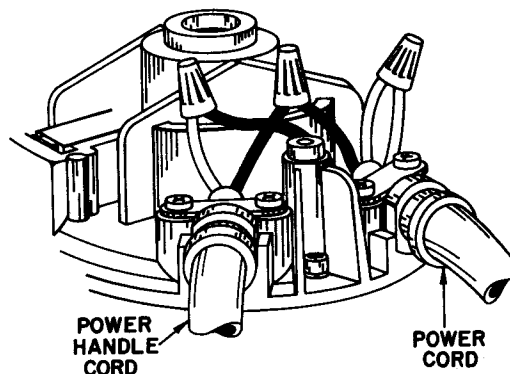

Fig. 4
2. Remove two screws and cord clamping plate that secures cord in router. See Fig. 4.